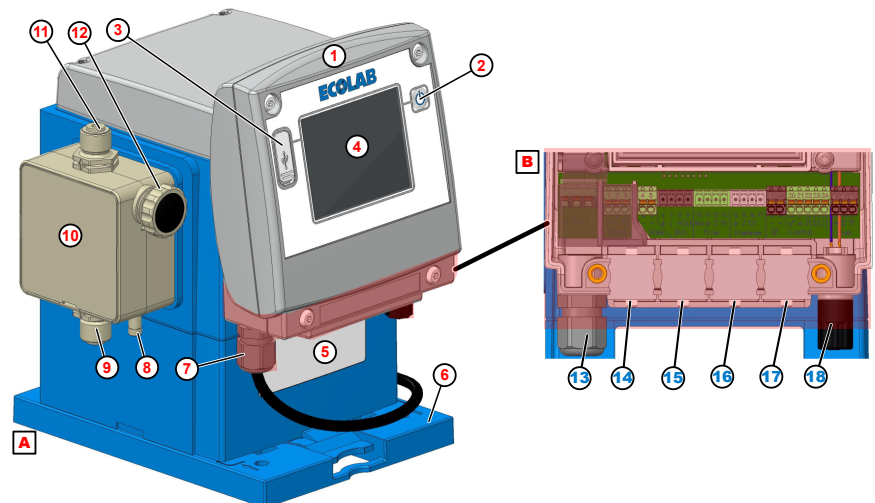

Fig. 3: Structure 'Lub-O-Mat Eco'
AD Ø = 5.1-5.7 mm (Fig. 3, ⑭-⑰).